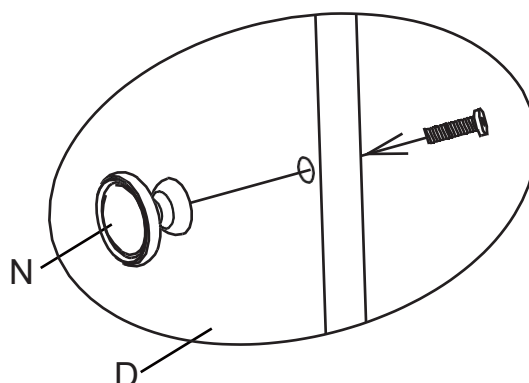

Figure 8
8. Attach the door handle (N) to the door panel (D) with the bolt (EE) using a Phillips screwdriver (NOT included), (see Figure 8).